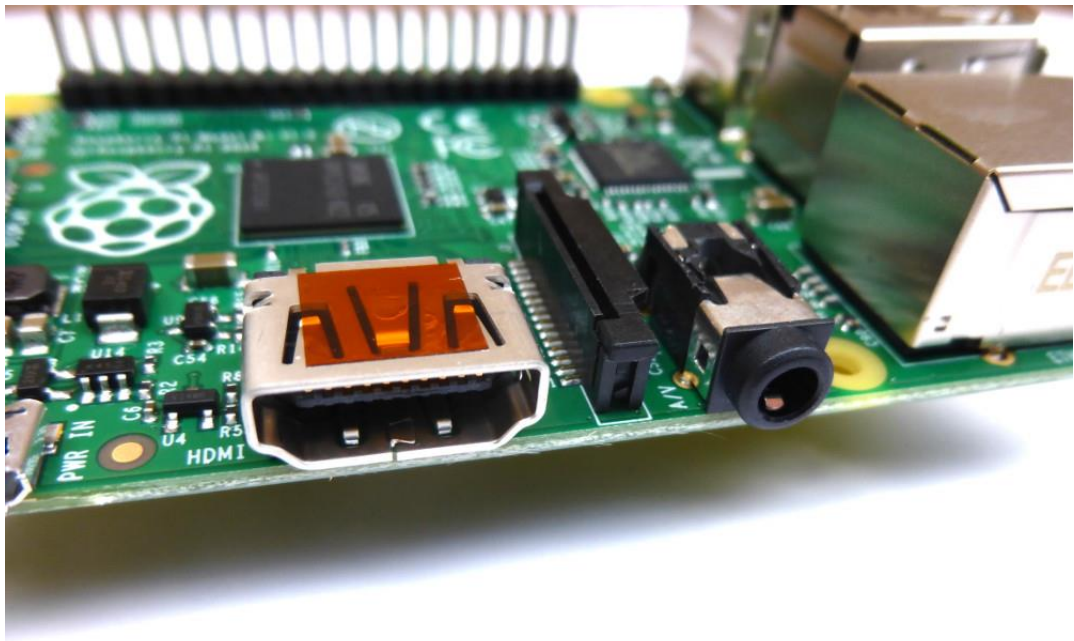

Fig 17. The Raspberry Pi's 3.5 mm AV jack
Just above the Ethernet port, on the left-hand edge of the Raspberry Pi, is a 3.5 mm audio-visual (AV) jack (Figure 17). This is also known as the headphone jack, and it can be used for that exact purpose – though you’ll get better sound connecting it to amplified speakers rather than headphones. It has a hidden, extra feature, though: as well as audio, the 3.5 mm AV jack carries a video signal which can be connected to TVs, projectors, and other displays that support a composite video signal using a special cable known as a tip-ring-ring-sleeve (TRRS) adapter.